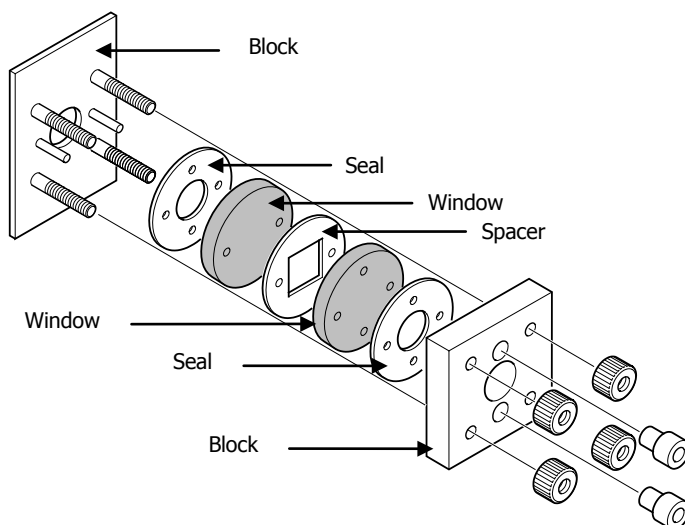

Figure 16 The Flow cell with the windows highlighted
3. Replace the windows, as shown in Figure 16.